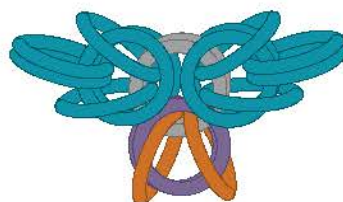

FIG. 5
5. Spread open the 2 (orange) jump rings that are now at the end (**FIG. 5**) exposing the inner (purple) jump rings.